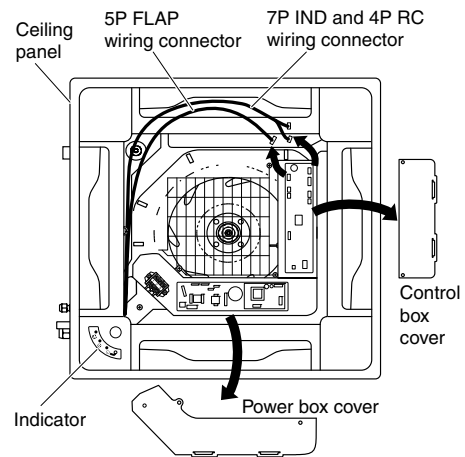

Fig. 7
- (1) Turn OFF the power and remove the ceiling panel air-intake grille. (Refer to **3-6-1 Before Installing the Ceiling Panel** in the Installation Instructions supplied with the indoor unit.)
- (2) Remove the 3 power box cover screws and 2 control box cover screws, then remove both covers. At this time, take care not to drop the covers. (Fig. 7)
- (3) Disconnect the 7P (IND) terminal and 4P (RC) terminal of the 7P IND and 4P RC wiring connectors and the 5P terminal of the 5P FLAP wiring connector from the control box PCB connectors (IND, RC, FLAP). Disconnect each wiring connector from the clamp that fastens it. (Fig. 7)
- (4) Remove the ceiling panel. (To remove the ceiling panel, follow the steps for **3-6 How to Install the Ceiling Panel** in the reverse order. Refer to the Installation Instructions supplied with the indoor unit.)